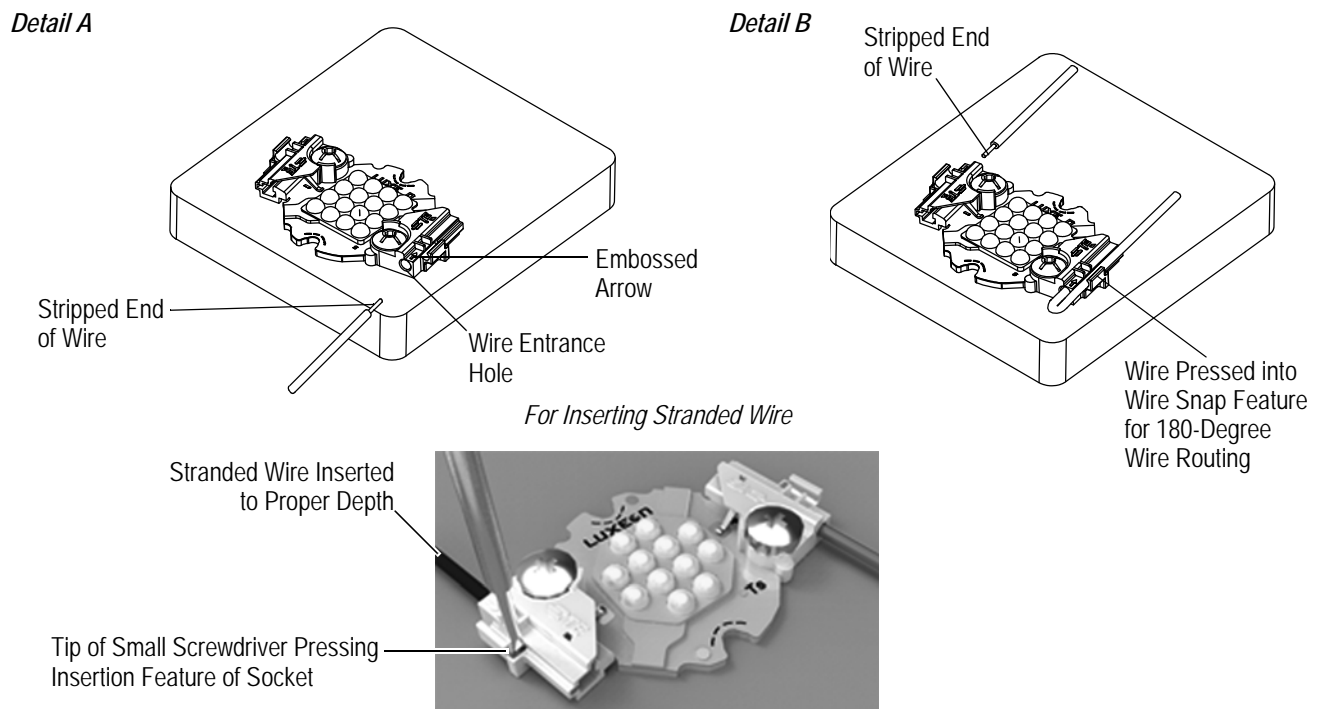

Figure 5
If using stranded wire, it is recommended to use the tip of a small screwdriver to gently push down the insertion feature of the socket when inserting the stranded wire to ensure proper insertion depth of the stranded wire. Refer to Figure 5, Detail A.
2. Each wire can be routed to the appropriate LED driver. For 180-degree wire routing, the wire can be pressed into the wire snap feature of the socket. See Figure 5, Detail B.